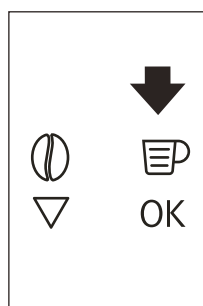
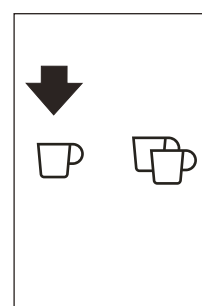
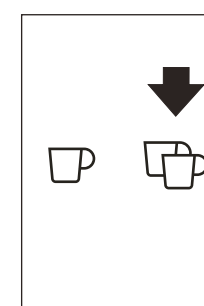

Fig. 18
Fig. 19
Fig. 20
- ▶ Press the icon (B5) (Fig. 18) to select the type of coffee: espresso, small cup, medium cup, large cup, mug. Press the icon ☉ (B10) (Fig. 19) if you want to make a coffee and the icon ☉☉ (B11) (Fig. 20) if you want to make 2 coffees. The appliance now grinds the beans and starts delivering the coffee into the cup. Once the set amount of coffee has been delivered, the machine stops delivery automatically and expels the exhausted waste coffee into the waste coffee container.